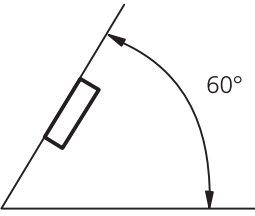

Fig. 1
- Optimum performance is obtained when the unit is installed at an angle of less than 60°. (Fig. 1)